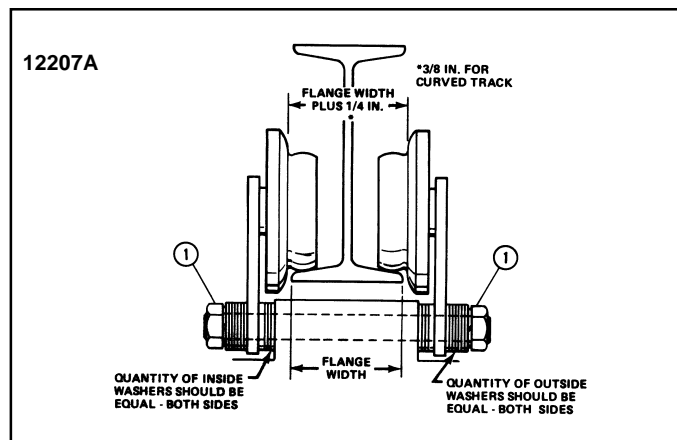

Figure 1. Proper Wheel Spacing
2. Determine proper trolley side plate spacing to assure that adequate wheel clearance (approximately 1/8") is provided on both sides of I-beam, between edges of bottom beam flange and inside faces of wheel flanges. Proper spacing is obtained by varying the number of spacer washers (furnished with trolley) that are installed on suspension pins, between hoist lug and trolley side plates. See Figure 1.
a. First measure the exact width of bottom flange on runway beam, and then add 1/4" to that measurement (3/8" for curved beam). The total is the required distance between inside faces of wheel flanges to obtain satisfactory wheel operating clearance. See Figure 1.
e. When wheel spacing is correct, remaining spacer washers are to be installed on outside ends of suspension pins (see note below) and the pins then secured with lockwashers and hex nuts. The nuts (1, Figure 1) should not be completely tightened until after hoist and trolley are mounted on runway beam.
- b. If trolley cannot be slid over end of beam, remove hex nuts (1, Figure 1), lockwashers and outer spacer washers from pins on one side of trolley. Spread or remove one side plate to facilitate positioning trolley over bottom flange of beam. Reinstall, side plate, outer spacer washers, lockwashers and hex nuts on suspension pins.
After trolley has been installed on beam, make sure suitable stop(s) is secured on open ended beams to prevent trolley from rolling off the beam. (Stops should contact trolley side plates, not wheels.) Make certain that all spacer washers and lockwashers are in place on suspension pins and that hex nuts are tight. Recheck clearance dimension between wheel flanges and beam flanges (Figure 1).